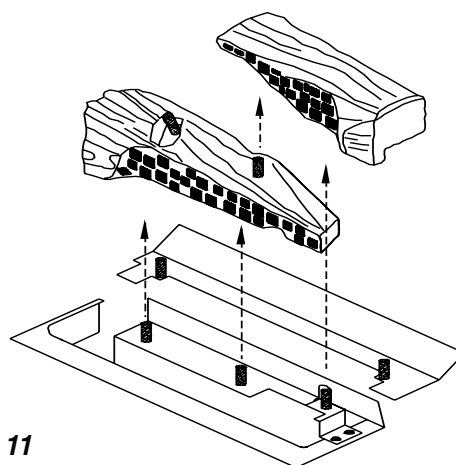

Figure 11
- 3) The left front log has two pegs protruding from the top surface (**Figure 11**). The charred black with white highlights surface of the log should be facing forward. Slide this log down onto the left front and center front pegs.
- 4) The right front log (positioned with the black charred surface towards the front) should be placed on the peg protruding from the right end of the left front log and the remaining peg at the right end of the metal log support panel (**Figure 11**).